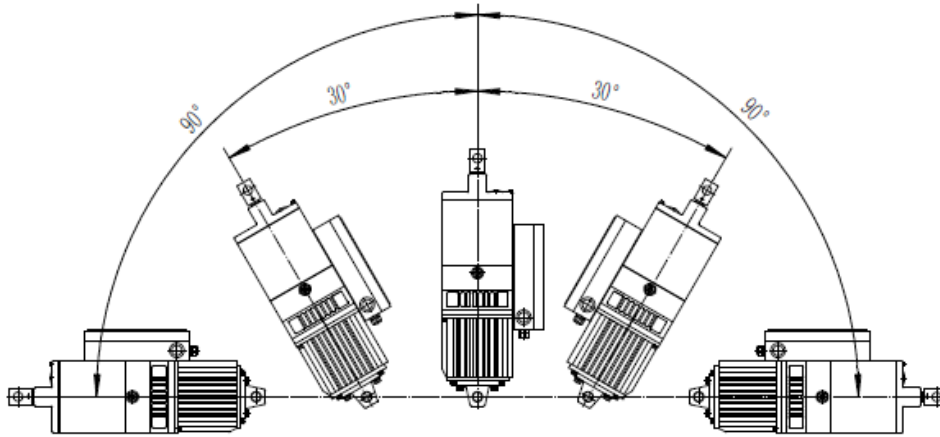

Fig. 5: Mounting options
5. Oil temperature switch (4): The thruster monitors the oil temperature in real time via the temperature switch. When the pre-set temperature of 75°C is reached a switch contact is sending a signal to the master control.
7. Speed control valve (8): The thruster release speed can be adjusted. Therefore the cover has to be removed. Loosen the lock nut on speed control valve (8) counter-clockwise (CCW). The flow control valve can be adjusted with the help of a special 4mm socket wrench as per fig. 5.